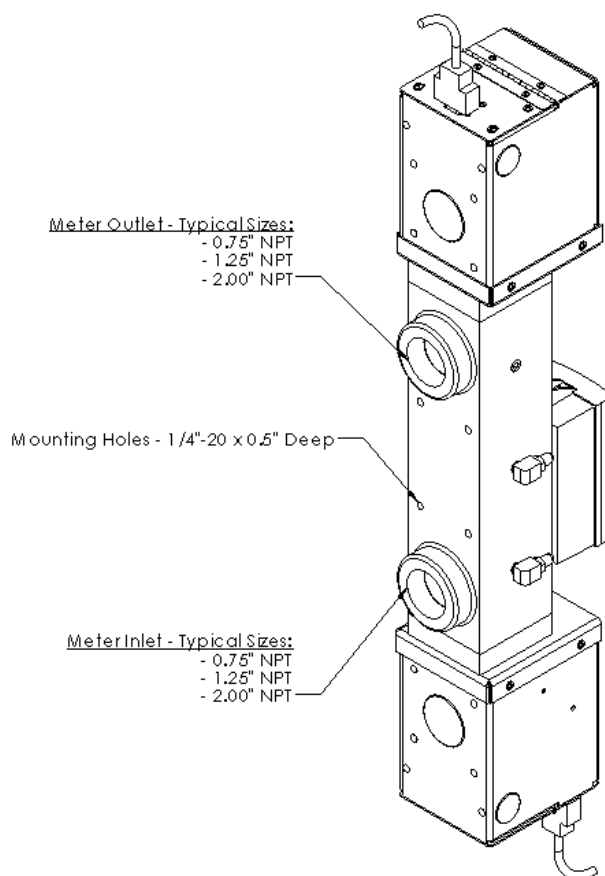

Figure 2 - FurnaceMeter-Touch™ Installation Callout
- Attach pipe fittings to the inlet and outlet of the FurnaceMeter-Touch™ as identified in Figure 2 below. It is acceptable to utilize bushings or reducers at the FurnaceMeter-Touch™ ports to accommodate the desired pipe size. However, undersized piping may limit the maximum flow rate capability. Consult pipe sizing charts or contact UPC-Marathon to ensure that the desired flow rates will not be compromised.